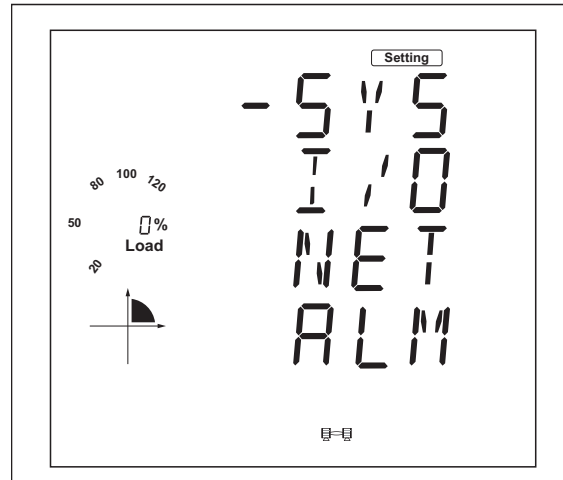

Figure 6: Entering system settings menu
1. This screen displays options for System (SYS), Input/Output (I/O), Network (NET), and Alarm (ALM). While the cursor is in SYS, press **V/A** to enter the System settings menu. In this mode, you will see screens for various parameter settings. See Figure 6.
1. Follow steps “Entering Setting Mode” on page 5. and “Entering the Password” on page 6. to get to the Parameter Settings Main Menu. Enter the SYS parameter screen. See Figure 6 on page 7.